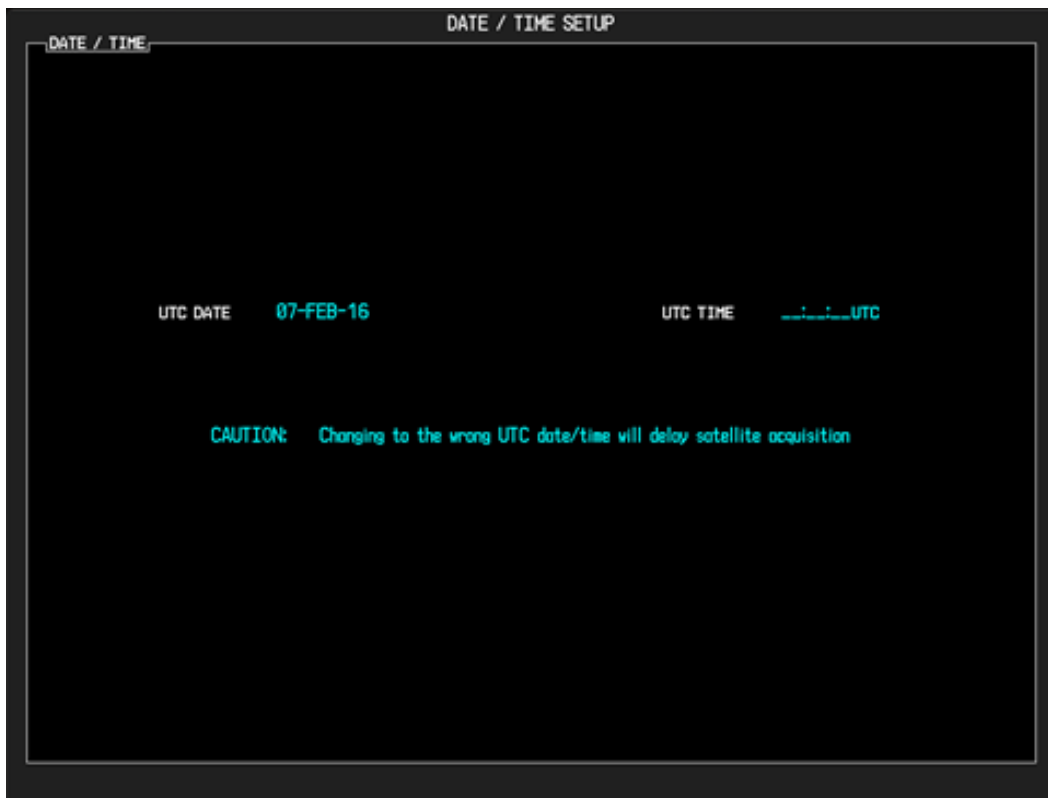

Figure 4-10. Date / Time Setup Page
3. Check the date and time shown on the Date/Time Setup page and enter the correct values, if necessary (see Figure 4-10).